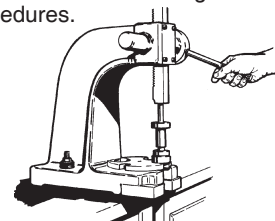

Figure 5-7
1. Using an arbor press, install the bearings on the shaft prior to installing the shaft into the pedestal. A steel "donut" with the proper inside diameter and outside diameter, Refer to Chart 1, should be used between the arbor face plate and the lower bearing to insure proper installation and to prevent bearing damage. The bearings must seat against the shoulder for proper alignment. Refer to Figure 5-7. *Also refer to Alternate bearing installation procedures.